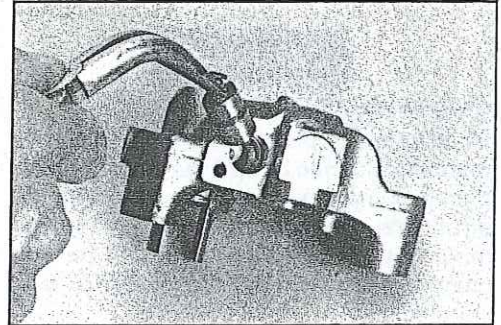

Fig. 51
3. Using needle-nose pliers remove the control valve (Fig. 51).